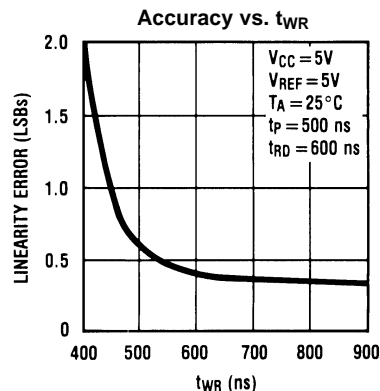
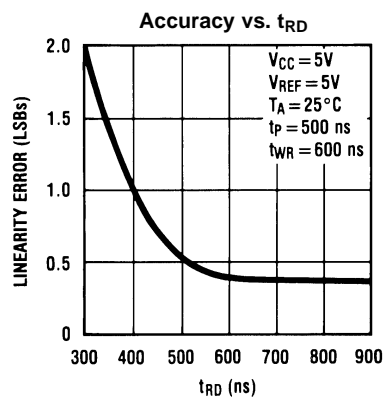

Figure 11.
Figure 12.
(3) Design limits are specified but not 100% tested. These limits are not used to calculate outgoing quality levels.
(4) Accuracy may degrade if t_{WR} or t_{RD} is shorter than the minimum value specified. See Figure 11 and Figure 12 graphs.